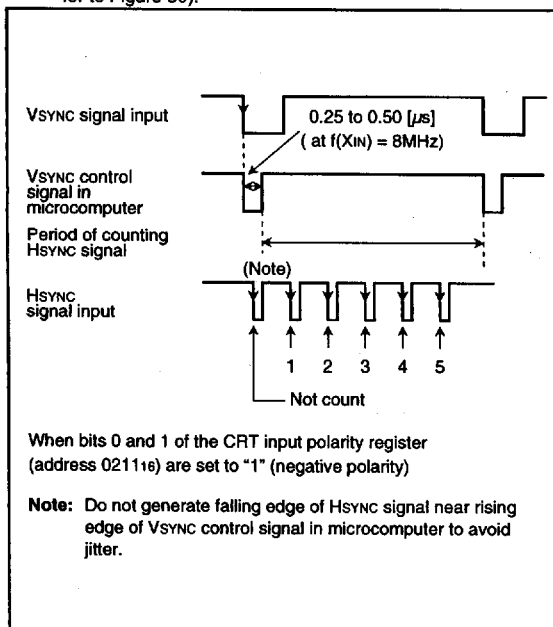

Fig. 50. Supplement explanation for display position
**Note:** When bits 0 and 1 of the CRT input polarity register (address 021116) are set to "1" (negative polarity), the vertical position is determined by counting falling edge of HSYNC signal after rising edge of VSYNC control signal in the microcomputer (refer to Figure 50).
In the following, the phase difference determination standard for the case where both the horizontal sync signal and the vertical sync signal are negative-polarity inputs will be explained. A phase difference is determined by detecting the time from a falling edge of the horizontal sync signal until a falling edge of the Vsync control signal (refer to Figure 50.) in the microcomputer and then comparing this time with the time of the previous field. When the time is longer than the comparing time, it is regarded as out-of-phase. When the time is shorter, it is regarded as in-phase. A 1-character font can be displayed in both fields by displaying 1 dot in the out-of-phase field and displaying 1 dot in the in-phase field.